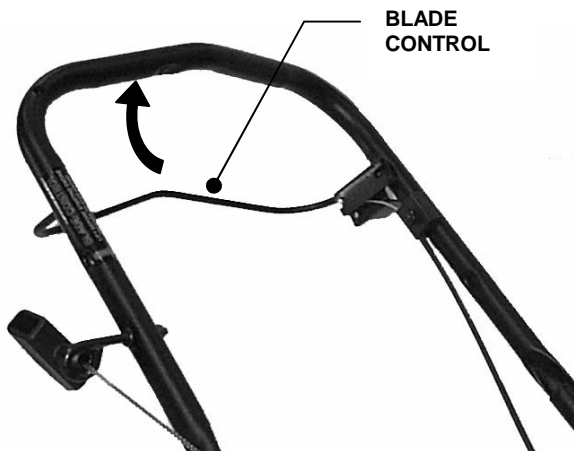

FIGURE 2.1
**2.1.2.** Check blade control to insure it works freely. See Figure 2.1.